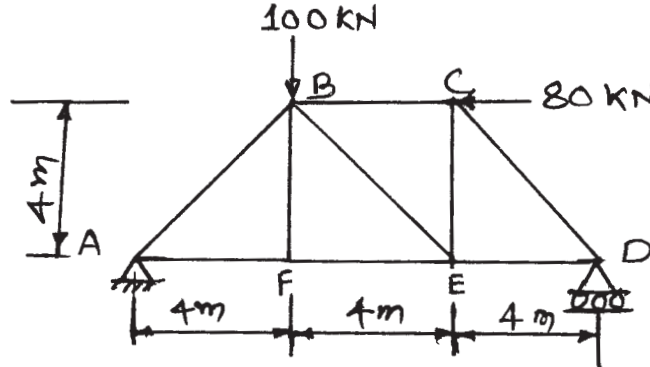

Fig. No. 2
- c) Using method of sections, find the forces in the members BC, BE and FE of the frame as shown in Figure No. 2. Tabulate your results for magnitude and nature.